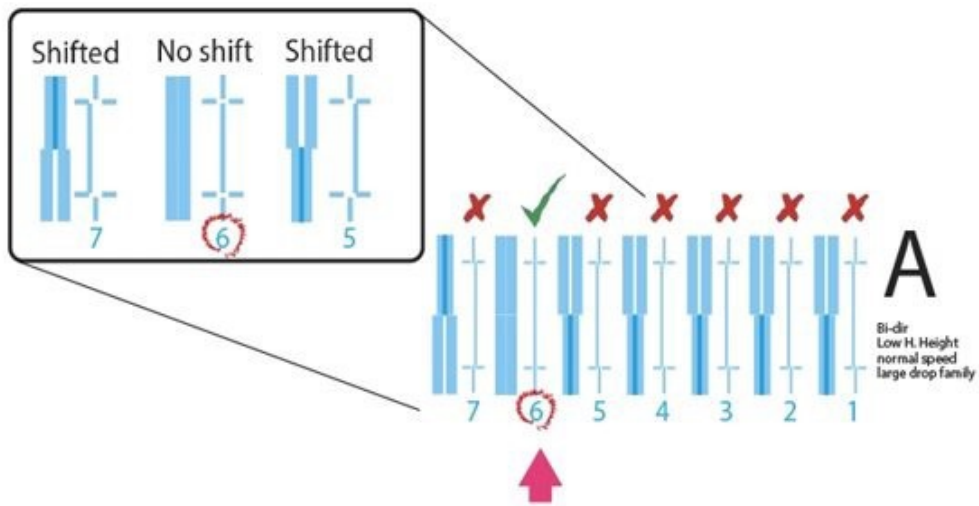

Figure 88
75. Check Patterns A, B and C. Locate and circle the numerical value of each alphabetical section where there is no shift. In the example here, we can determine the #6 pattern on line A is the proper choice to circle as the pattern shows no shifting. See Figure 88.